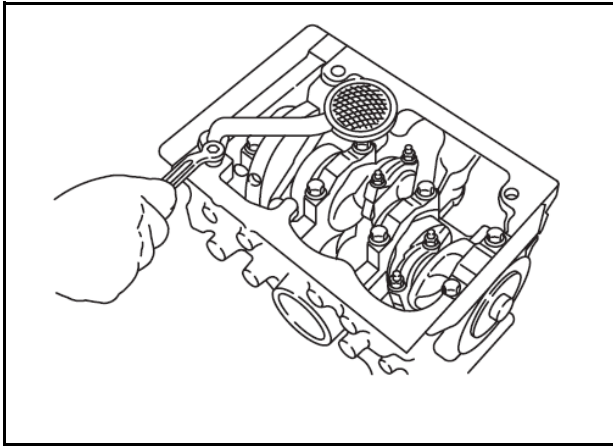

Fig. 7 - Installing Oil Pick-Up
1. Install gasket, oil pick-up tube and strainer, Fig. 7.